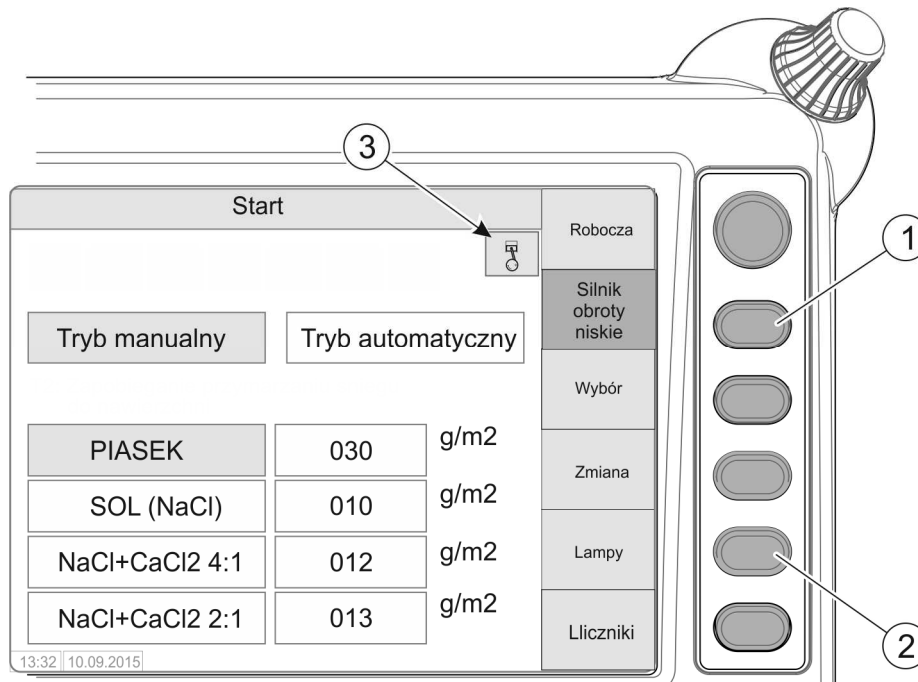

FIGURE 4.29 Stopping the engine
On "Start" home page of the control panel (FIGURE 4.29), press push-button (1) shortly to reduce the engine speed – this will be signalled by the indicator light. Let the engine run at low speed for several minutes and stop the engine by pressing and holding push-button (1) for 3 seconds. Indicator light (3) on the control panel display will go out. Switch off the sand spreader's lights by means of push-button (2) and set the main switch of the control panel to OFF position.